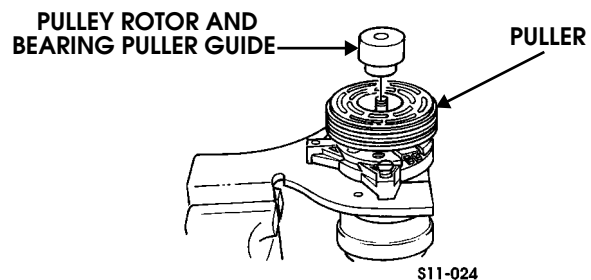

Figure 11-53: Pulley Rotor and Bearing Puller Guide
- Install pulley rotor and bearing puller guide on the compressor, and install pulley rotor and bearing puller down into the inner circle of slots in the rotor. Turn the puller clockwise in the slots in the rotor (Figures 11-53 and 11-54).